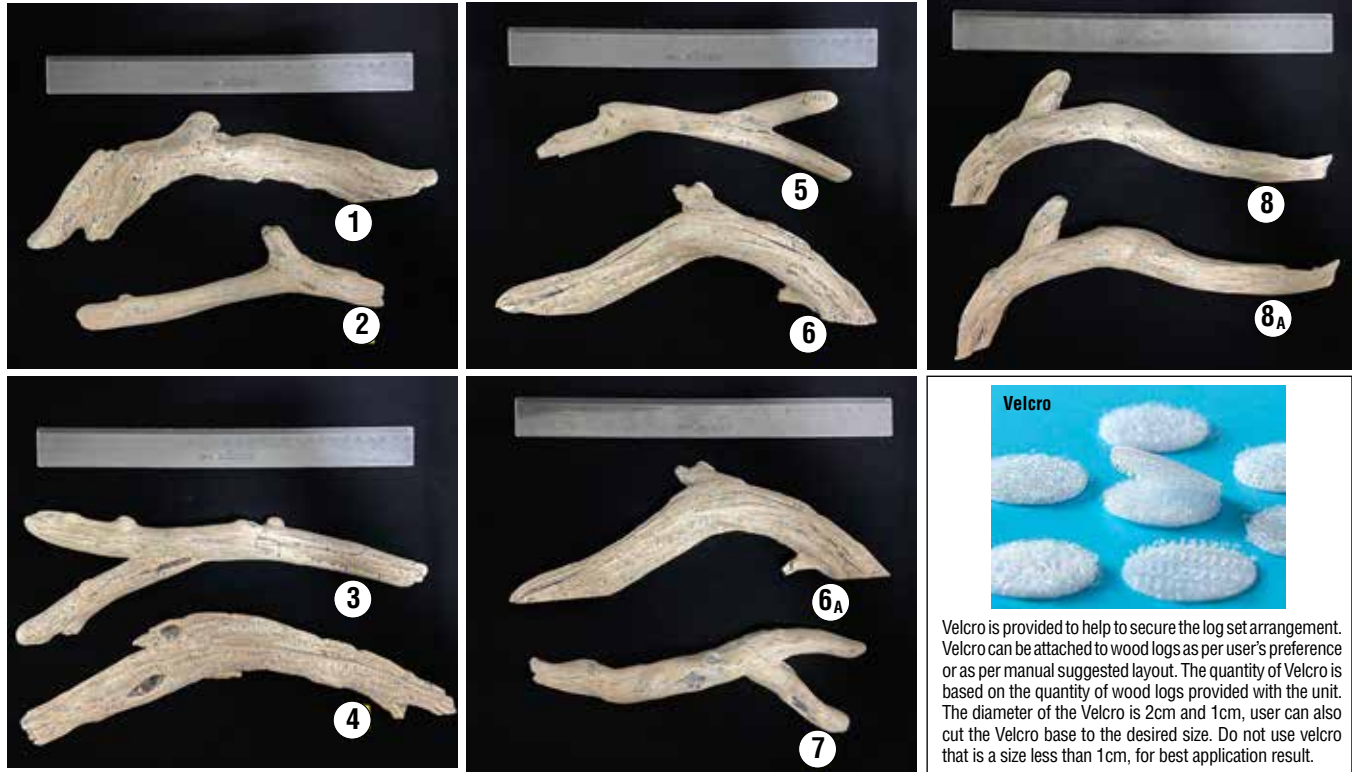

Figure 7
7. Place the logs along the light unit and over the crystals layer bed (see **Figure 7** and **Tables 4a and 4b**).